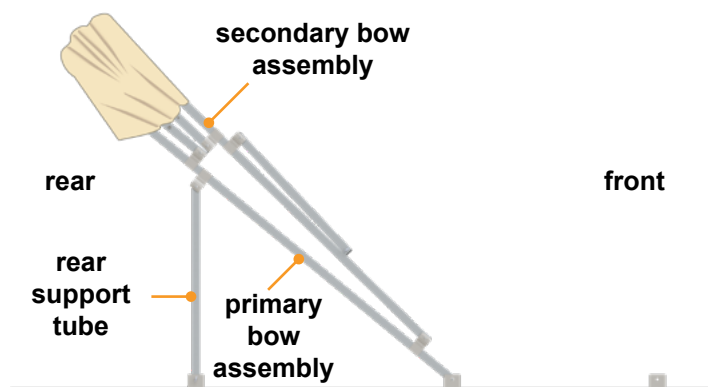

Fig.42
3. Carefully guide the canopy and frame assembly towards the rear of the pontoon until all of the frames collapse together onto the primary bow assembly (Fig.42).